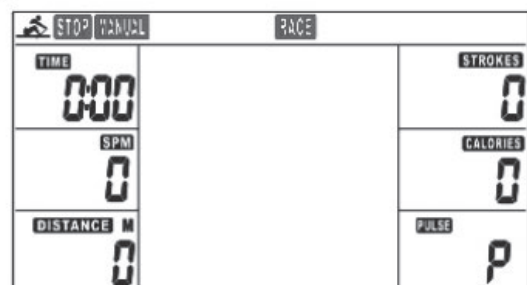

Fig. 5
*The console enters the training mode (Fig. 5).*